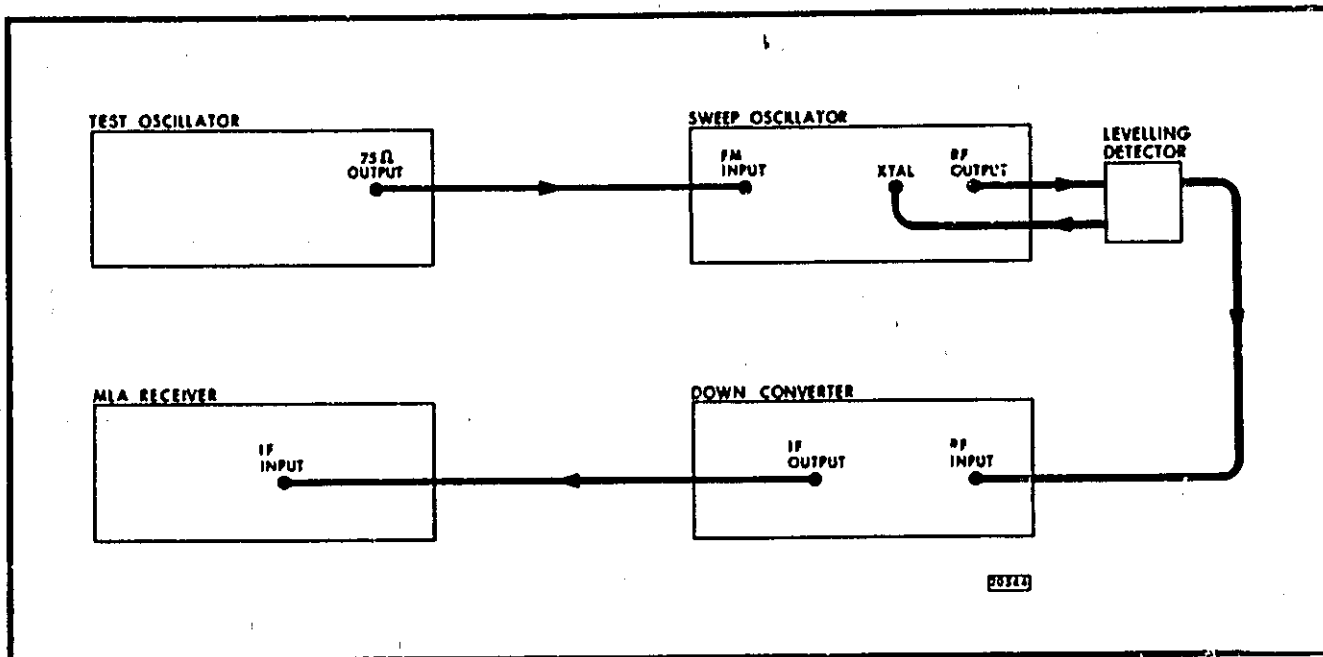

Figure 4-2 Equipment Set-up for Amplitude Response Adjustment
5. Connect the 3730A IF OUTPUT to the MLA receiver IF input. The equipment set-up should now be as shown in Figure 4-2.